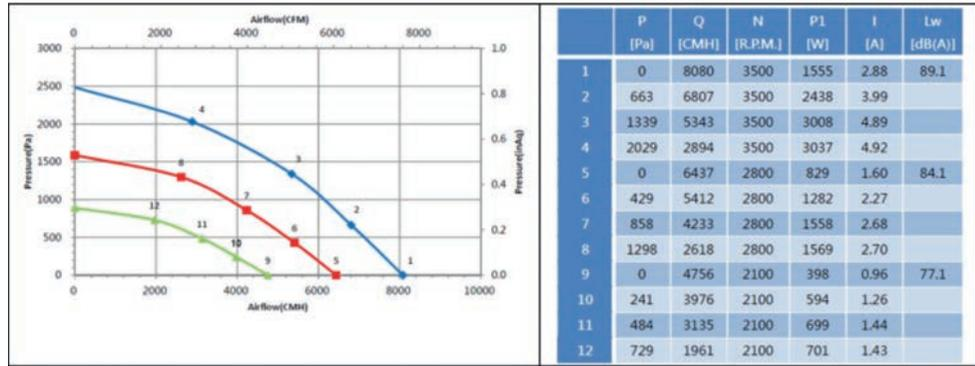

Figure 2: Suppliers usually specify several characteristic curves for their fans for operation at different speeds.
Such characteristic curves are shown in Fig. 2. The airflow is plotted on the X-axis and the pressure (in units Pa and in Aq) on the Y-axis. The pressure is highest when the airflow is zero. In this case, the fan works with high resistance to the airflow, and the maximum static pressure (P_E) is created. At the same time, the dynamic pressure (P_D) is zero, which means that no airflow is generated. At this point P_T = P_E.
Figure 2 also shows that when the pressure in the fan is zero, the maximum airflow is achieved. Since there is no resistance to the
To calculate a fan's operating point (OP), it is recommended to consult with the supplier, as they have the necessary technical means to perform simulations. However, the approximate OP can also be calculated. To calculate the operating point with the lowest power consumption, the power consumption and current values listed in the table (Fig. 2) are important data.